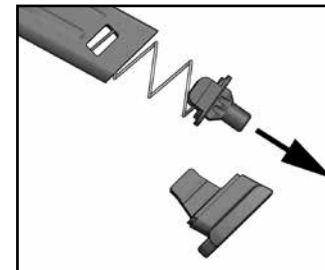

Figure 24
4. Gradually allow the locking insert and magazine spring to expand out of the magazine housing (see Figure 24).